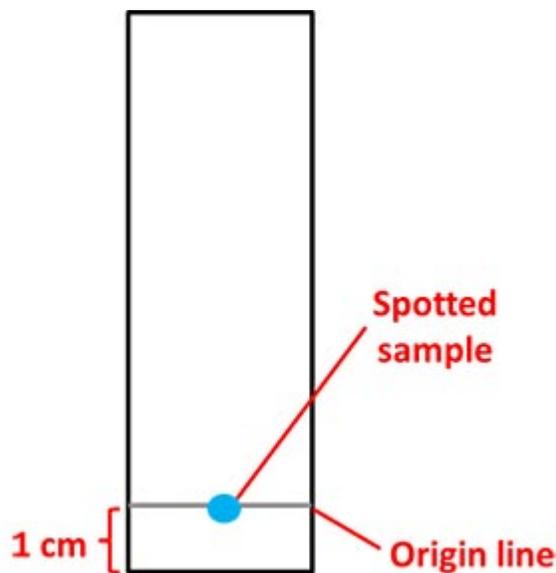

Figure 3. Each chromatography strip will have an origin line. The pen/marker ink to be tested will be spotted in the middle of the origin line.
2. Take one of the chromatography strips and use a ruler and pencil to draw a line across it horizontally 1 cm from the bottom. This is the origin line, see Figure 3 below for details. Repeat this step for all 15 of the chromatography strips.